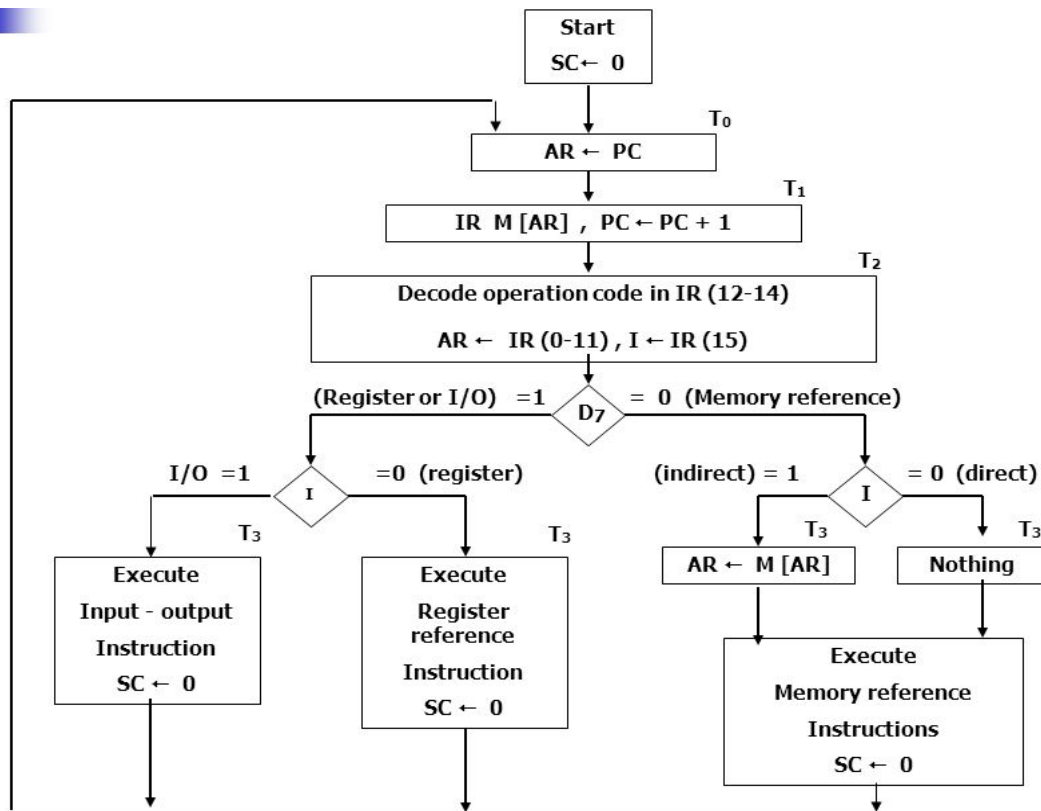

Figure 1-II : Flowchart for instruction cycle (initial configuration).
- ❖ The flowchart of Fig. 1-II presents an initial configuration for the instruction cycle and shows how the control determines the instruction type after the decoding.